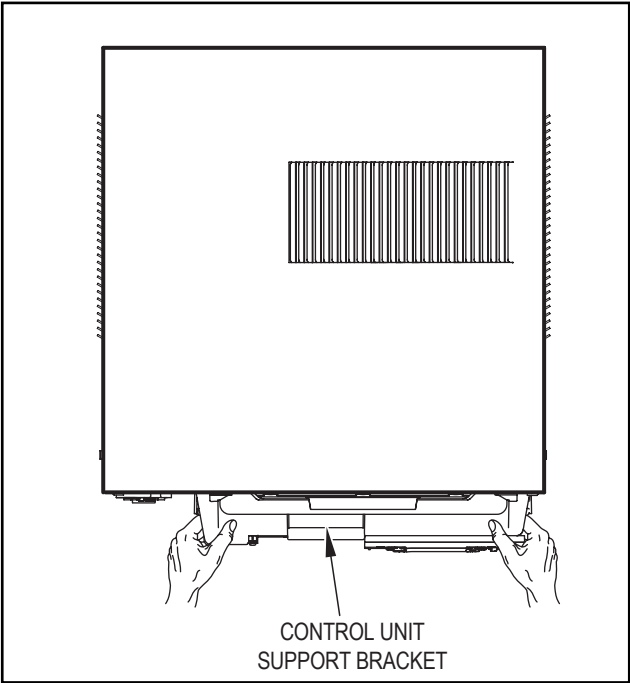

Figure C.4.2
STEP 2. Hold the cabinet stationary. Then, use the hand grips on both ends of the control unit support bracket to pull the chassis out of the cabinet (see Figure C.4.2).